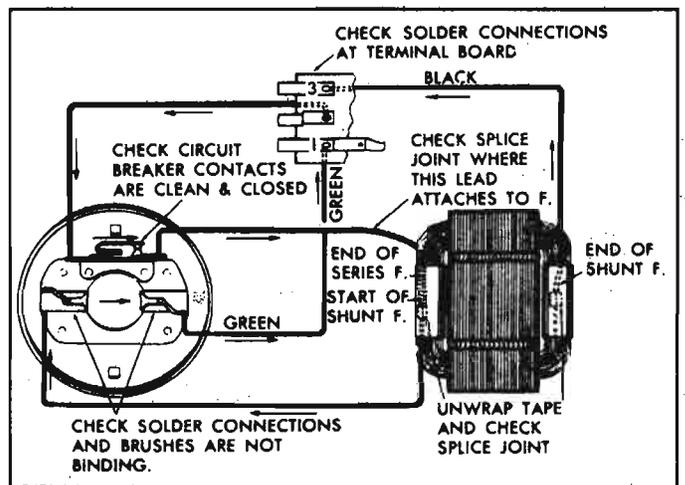

Fig. 8-151—Shunt Field Circuit
- a. Disassemble gear box section and unsolder the black lead from terminal No. 3, Figure 8-151.
- d. Connect up leads as required (fig. 8-151).
Approx. 2 amps.—	Open armature, hung brushes, solder connections, broken green lead, etc. (See Figure 8-151.)
0	Dirty or defective circuit breaker contacts, solder connections at circuit breaker terminals. (See Figure 8-151.)
1. Check that wiper has "Lo" speed. If wiper has only one speed (fast), look for an open shunt field circuit. (See Figure 8-151.)
1. Check for an open shunt field circuit (fig. 8-151).
1. Look for a grounded condition in the shunt field circuit (fig. 8-151).